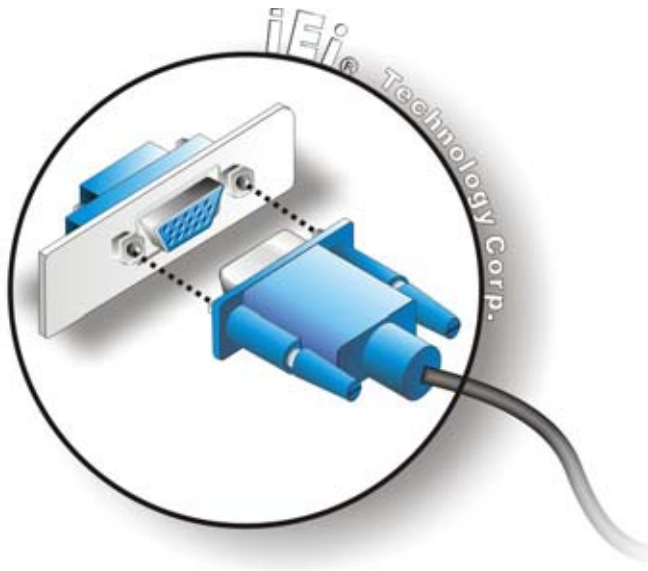

Figure 4-17: VGA Connector
- Step 5:** **Insert the VGA connector** Once the connectors are properly aligned with the insert the male connector from the VGA screen into the female connector on the KINO-9653. See **Figure 4-17**.